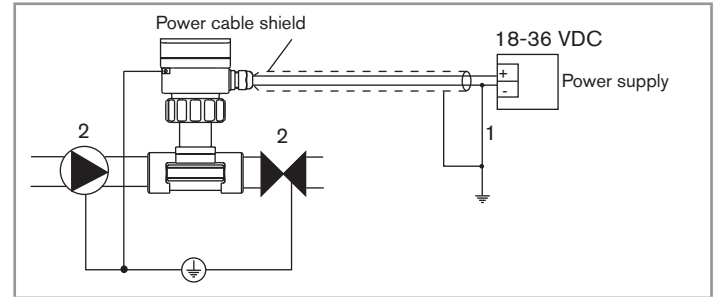

Fig. 16: Earthing the device
- Connect the negative power supply terminal to the earth to suppress the effects of common mode currents. If this connection cannot be made directly, a 100 nF/50 V capacitor can be connectec between the negative power supply terminal and the earth (marked 1, Fig. 16).
- connect to the same earth the different metallic instruments (valve, pump...) located near the device (marks 2, Fig. 16).
- insert the metal parts (not provided) in the plastic pipes, upstream and downstream of the device (marked 2, Fig. 16).
- connect the metal parts to the same earth (Fig. 16).